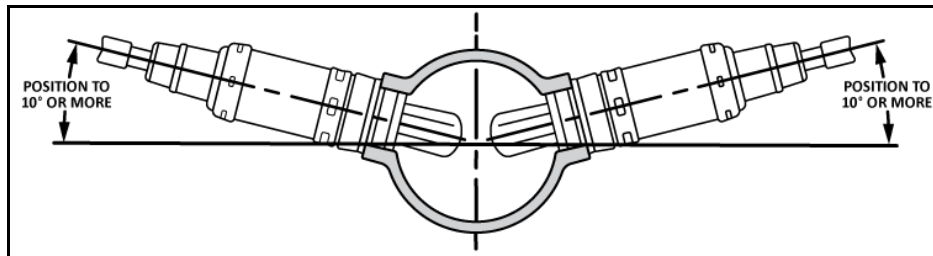

Figure 1
2. Ensure the location for the sensor is at the angle in **Figure 1**. This will help prevent condensation in the exhaust tubing from entering the sensor. The sensor can be mounted on either side of the tubing.